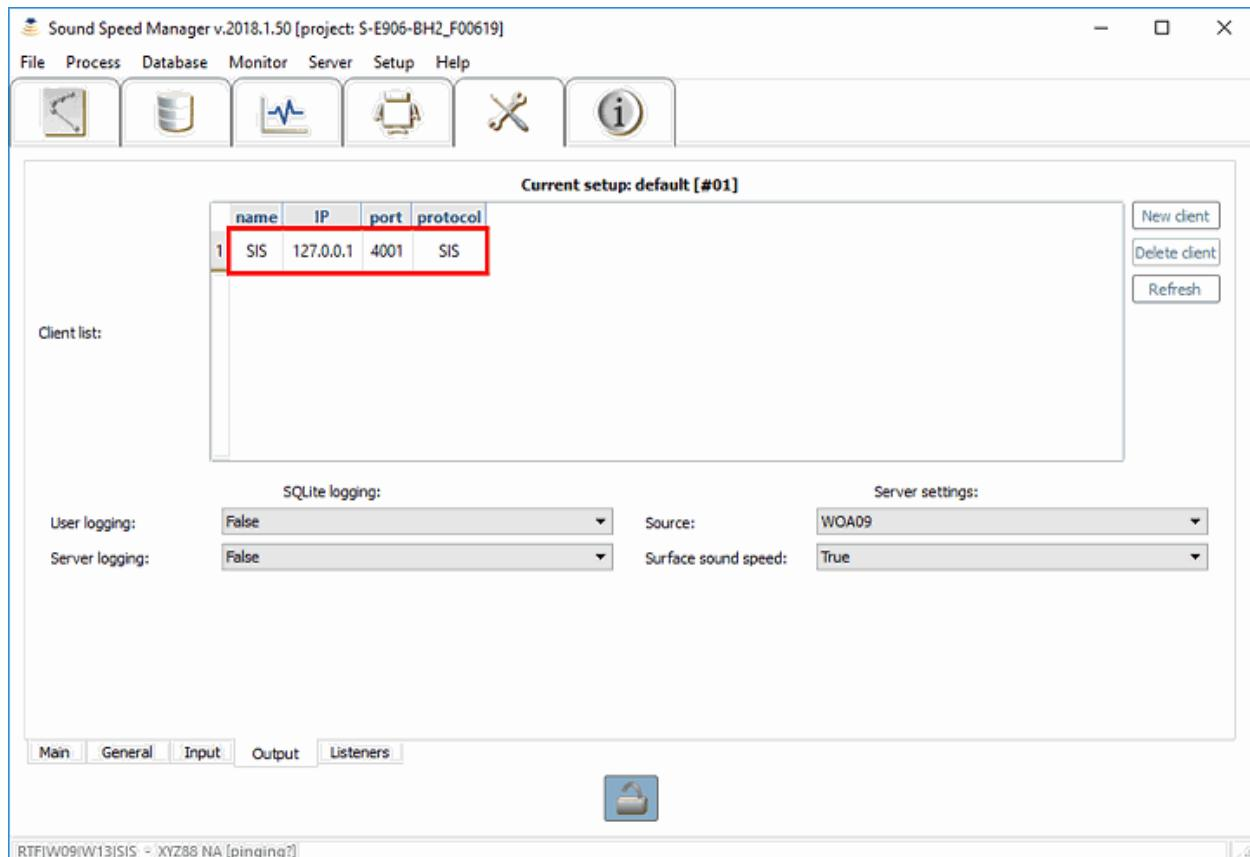

Fig. 2.8: Sound Speed Manager Setup Output dialog, with key settings in red for *Method A: Sound Speed Manager and SIS v4 Installed on the same Computer*.
- Under *Output*, you can leave the client list set to default, or create a new client with IP = 127.0.0.1, port = 4001, and protocol = SIS (see Fig. 2.8). These settings will tell Sound Speed Manager that SIS is on the same computer, and to send the CTD cast data to port 4001 (KM default).